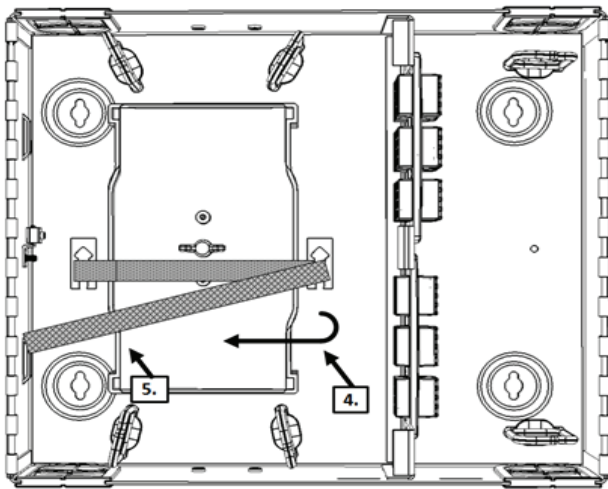

Figure 10
4. Fold the end over the splice tray(s). (Figure 10).